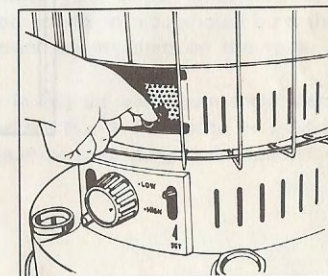

Fig. 14
- (4) Open the burner handle access door and use the burner handle to seat the burner for 2 – 3 times to make sure that the burner is properly seated after lighting (Fig.14).
- (5) When re-ignition is performed immediately after extinguishing, crude fuel can cause an intense smell. Wait 5 minutes for cooling the Burner before re-ignition.